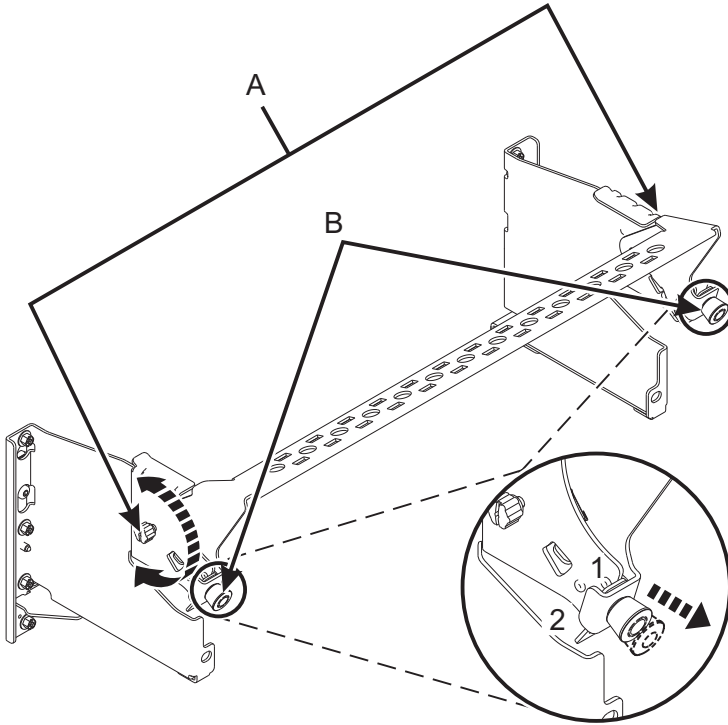

Figure 46. Placing the cable management bracket in the service position
3. Put the cable management bracket in the service position. See Figure 46 on page 44.